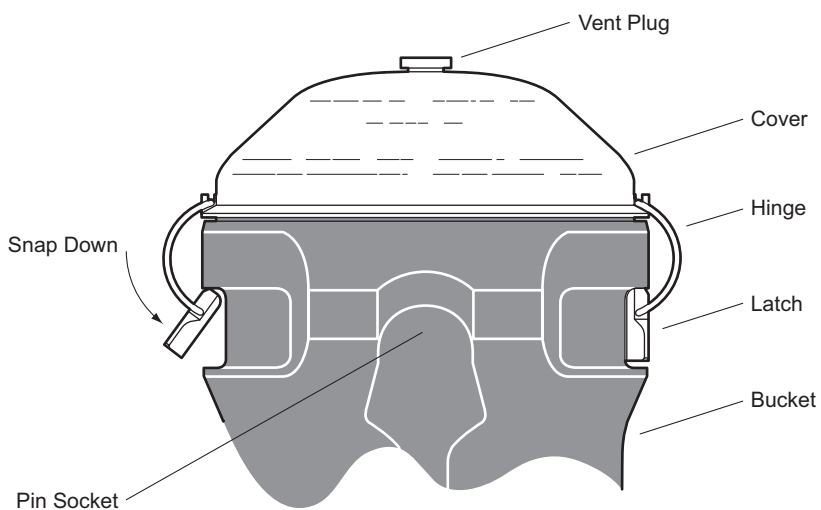

Figure 2. Securing the Cover Latches
4. Place the cover on the bucket with the latches located perpendicular to the pin sockets (see Figure 2).